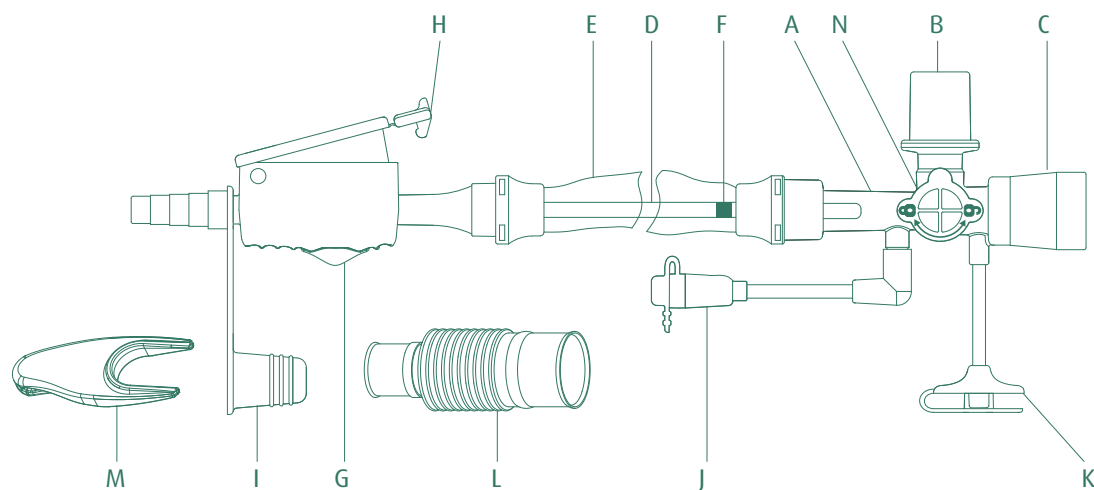

Fig.1
1. **(Fig. 1)** Attach the 15 mm male connector of the patient end adaptor (B) to the breathing system (machine-end); the 15 mm female connector (C) to the patient's artificial airway (patient-end) .
2. **(Fig. 1)** The included corrugated connector (L) may be attached between the 15 mm male connector (B) and the breathing system if needed.
3. **(Fig. 1)** Attach the suction tube with the hospital vacuum system to the catheter-end connector of the vacuum control device (G) .
4. **(Fig. 1)** Attach a day label stick to the vacuum control device indicating the date of use.